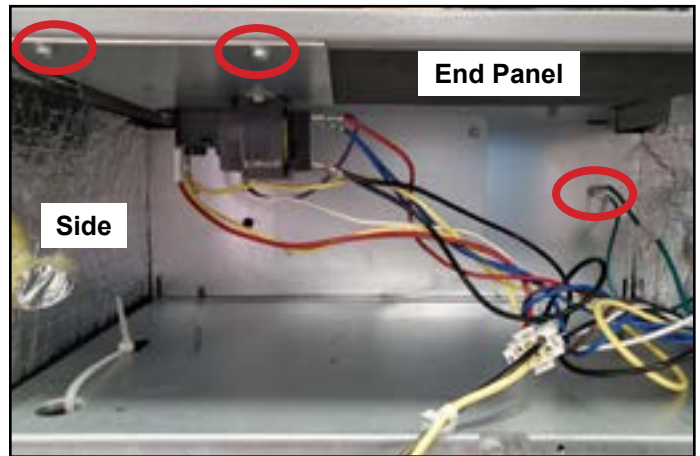

Figure 5. Control Panel Relocated to End Panel (Horizontal-Right Configuration)
To avoid the possibility of moisture damage to the control in some right-hand discharge configurations, the control panel can be relocated to the end panel as shown in Figure 5.
1. Screw ground wires to the electric heat mounting panel (Figure 5).